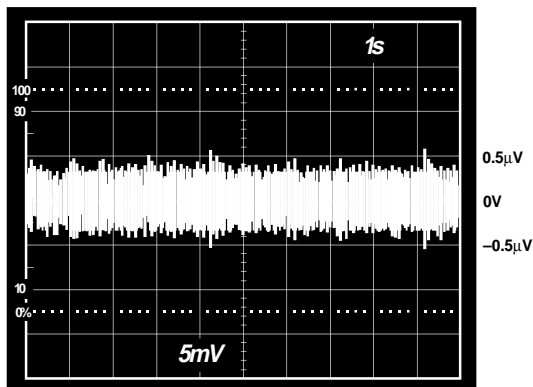
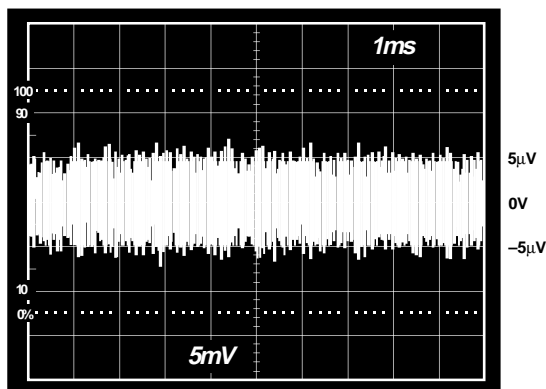

Figure 17. Low Frequency Voltage Noise from 0.1 Hz to 10 Hz*
Figure 19. Voltage Noise from 0 kHz to 10 kHz*
*The photographs in Figure 17 through Figure 19 were taken at $V_S = \pm 15\text{ V}$ and $T_A = +25^\circ\text{C}$, using an external amplifier with a gain of 1000.
*The photographs in Figure 17 through Figure 19 were taken at $V_S = \pm 15$ V and $T_A = +25^\circ\text{C}$, using an external amplifier with a gain of 1000.